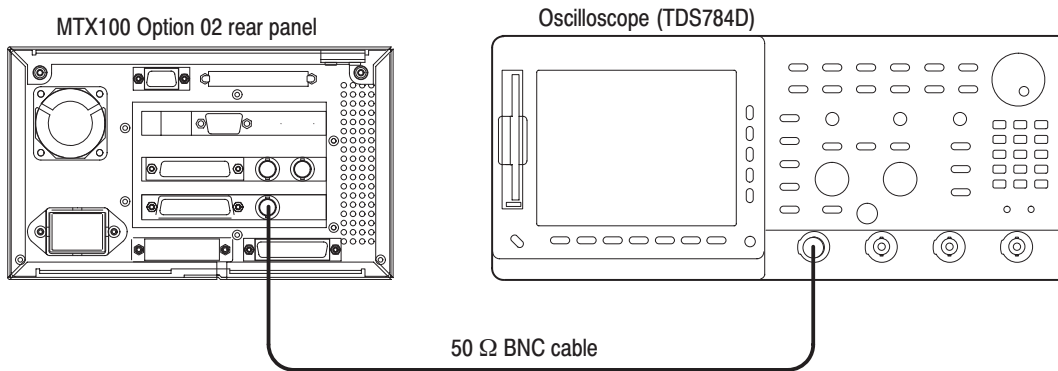

Figure 4-13: Equipment connection for verifying the EVENT output
- 84.** Use the 50 Ω BNC cable to connect the EVENT OUT connector on the MTX100 Option 02 to the oscilloscope CH1 input as shown in Figure 4-13.